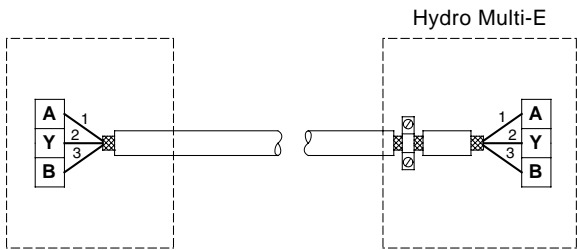

Fig. 10 Connection with shielded 3-core cable
- If the unit has no cable clamp as shown in fig. 10, the shield is left unconnected at this end.